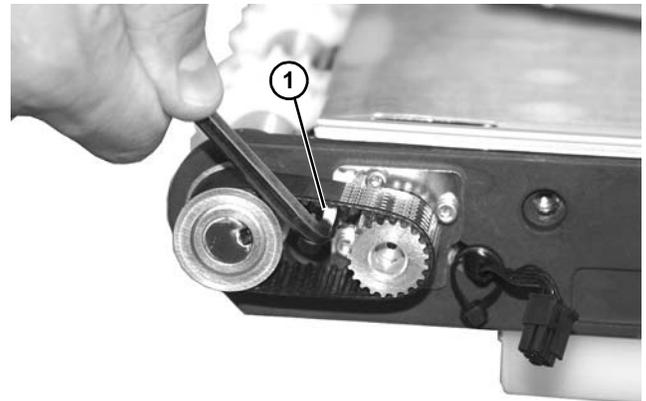

Figure 63
6. Loosen timing belt tension cam (Figure 63, item 1).